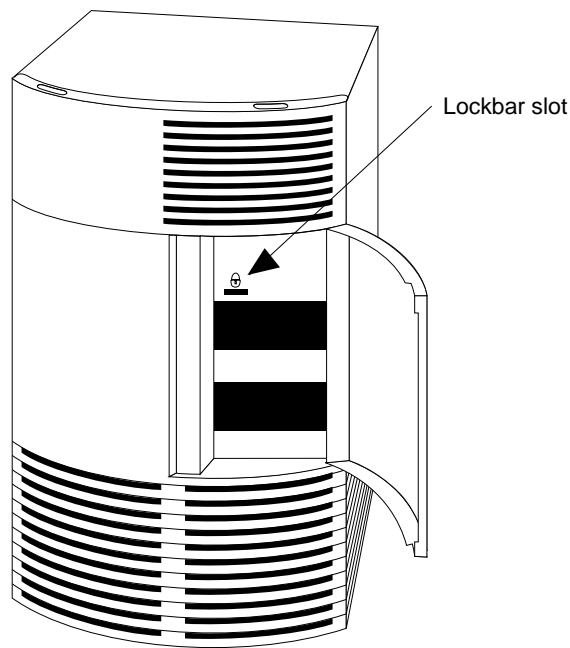

Figure 2-29 Locating the Lockbar Slot on the Front of the IRIS Indigo Workstation
- Locate the lockbar slot. It is labelled with a lock icon and is above the top drive slot, as shown in Figure 2-29.